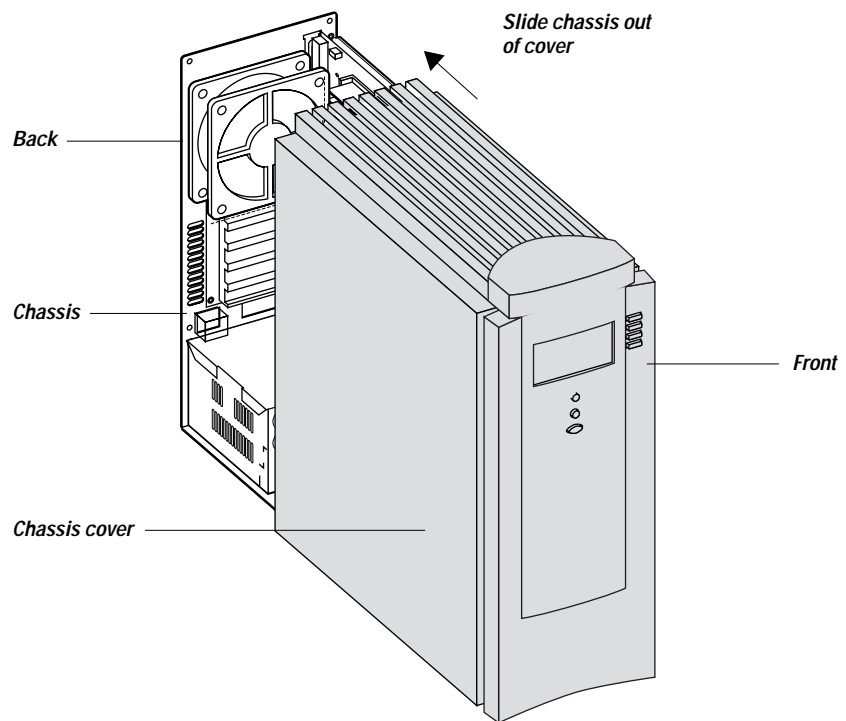

Figure 5-3 Removing the Fiery XJ-R/R2 chassis cover
5. *Pull the chassis out of the chassis cover (see Figure 5-3 on page 5-5). The internal components of the Fiery XJ-R/R2 are now accessible.*